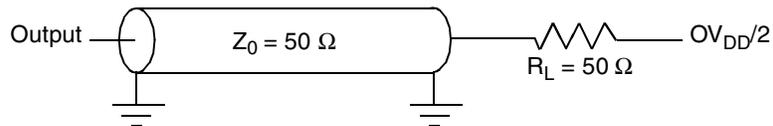

Figure 11. Alternate AC Test Load for the JTAG Interface
1. All outputs are measured from the midpoint voltage of the falling/rising edge of TCLK to the midpoint of the signal in question. The output timings are measured at the pins. All output timings assume a purely resistive 50-Ω load (see Figure 11). Time-of-flight delays must be added for trace lengths, vias, and connectors in the system.
Figure 11 provides the AC test load for TDO and the boundary-scan outputs of the MPC7410.